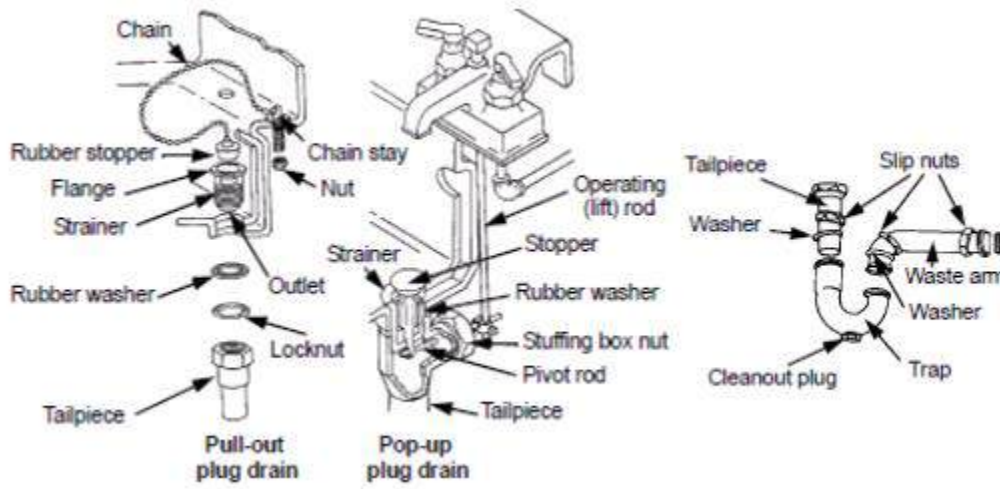

Figure 3.29 Drain-plug assembly and P-trap connection
Step 4. Connect the p-trap between the rough-in waste outlet and the tailpiece (Figure 3.29).